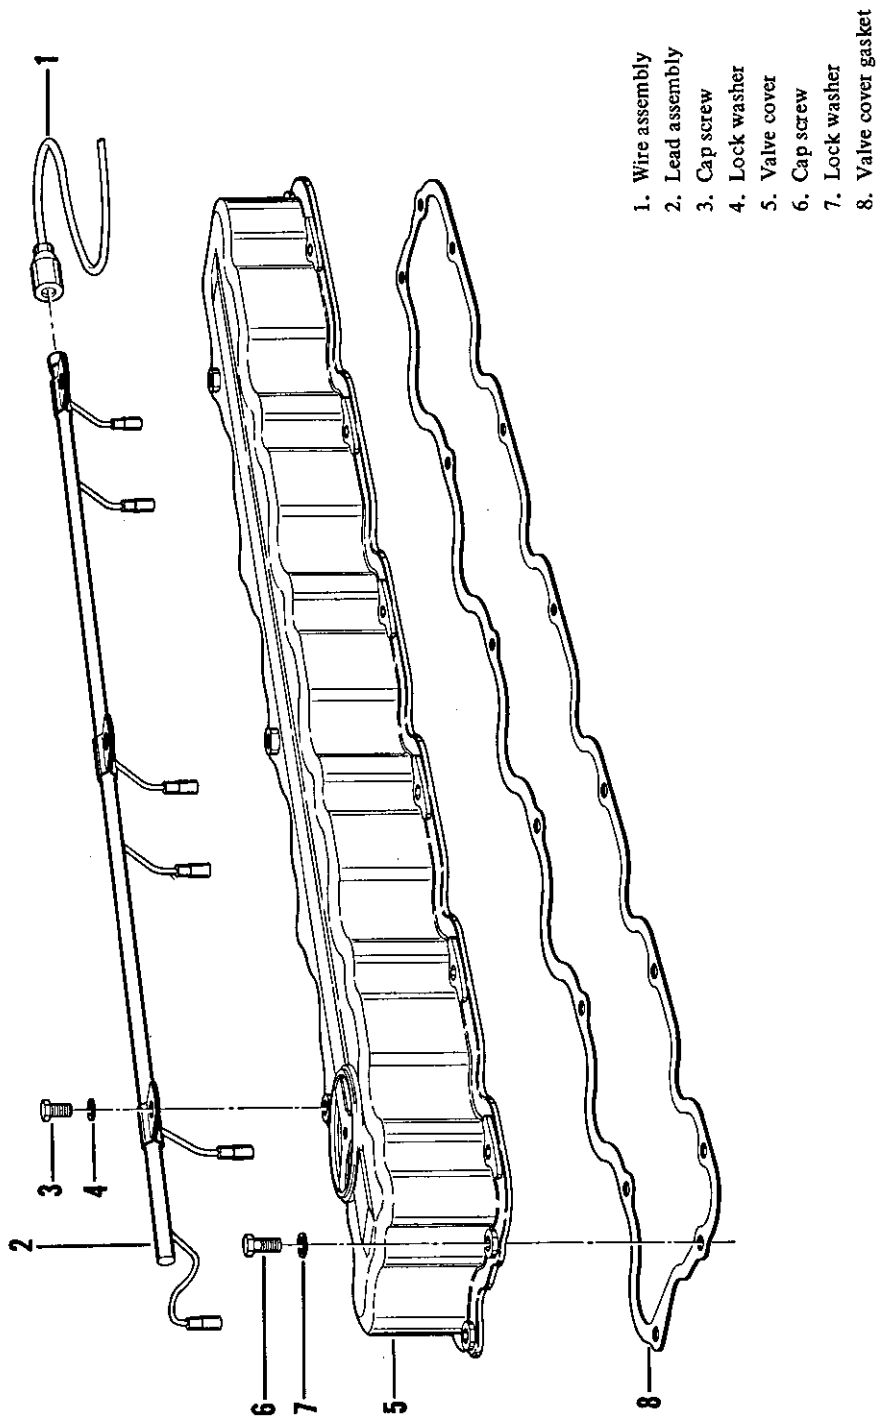

Figure 5-18. Glow plug wiring and valve cover
5-33. **GLOW PLUG WIRING AND VALVE COVER** (Figure 5-18). Disconnect wire assembly (1) from end of lead assembly (2). Remove cap screws (3), lock washers (4), and lead assembly (2). To remove valve cover (5), first remove the engine breather from cover (refer to